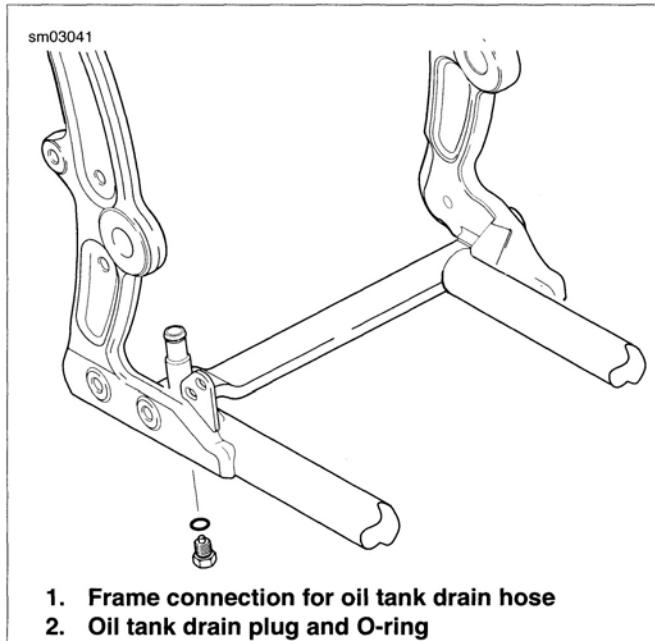

Figure 1-3. Oil Tank Drain Plug
3. See Figure 1-3. Remove the engine oil drain plug with o-ring (2). Allow oil to drain into a suitable container.
6. See Figure 1-3. Install oil tank drain plug (2).